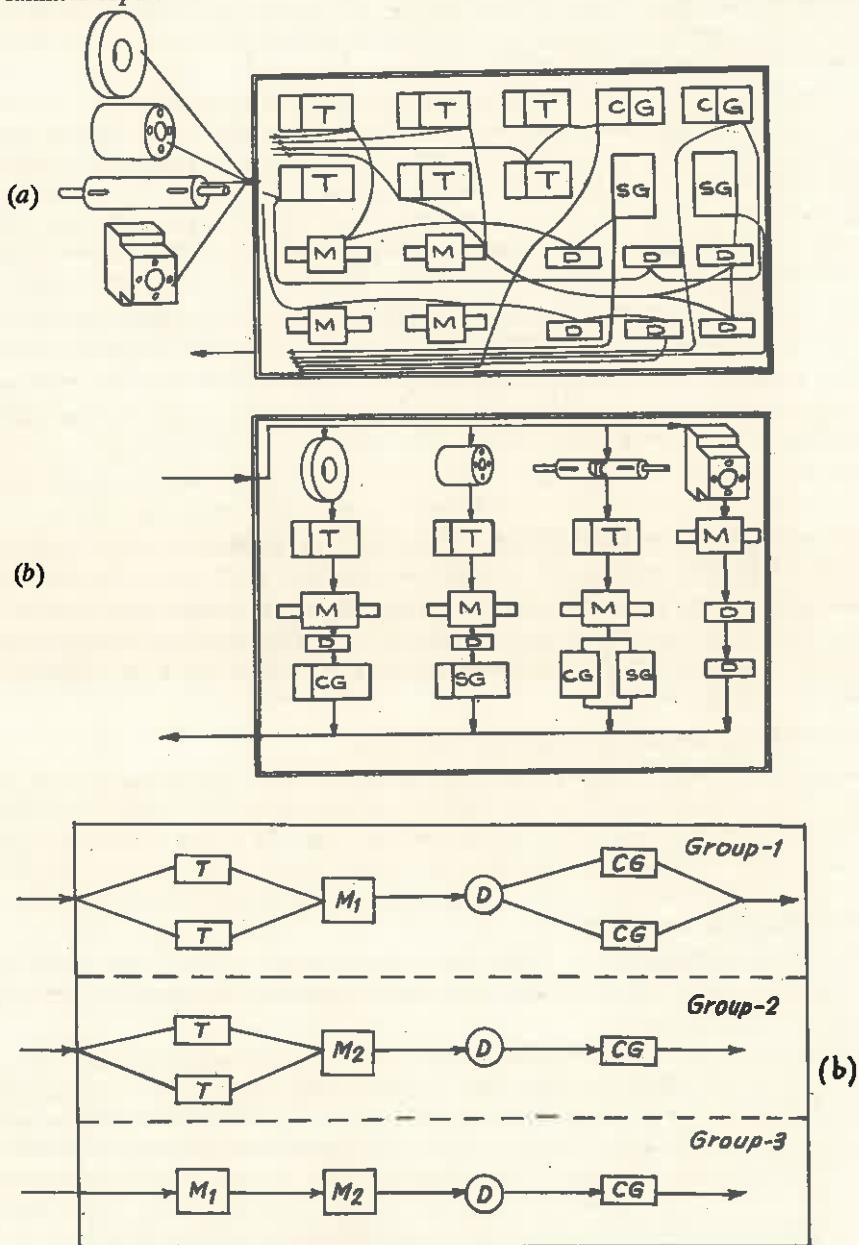

Figure 6.10. (a) Function and (b) group layouts
- In a typical factory organised for small batch production, the machines are by tradition usually arranged according to their *function*, for example, in a metal cutting industry, there may be a turning section having lathes, a milling section having various types and sizes of milling machines and so on (Fig. 6.10). A component during manufacture may need to visit some or all of these sections. This results in heavy losses of time due to the resetting of machines, in particular, as *largely dissimilar parts* may be loaded successively, causing large queues of parts awaiting processing on each machine. *Further problems associated with small batch production are :*
- In a *group/cell layout system* Fig. 6.10 (b), the layout design is not according to the functional characteristics of machines, but rather by groups of different machines (called *cells*) that are necessary for the production of families of parts. Fig. 6.10 (b) shows four families of parts. The first